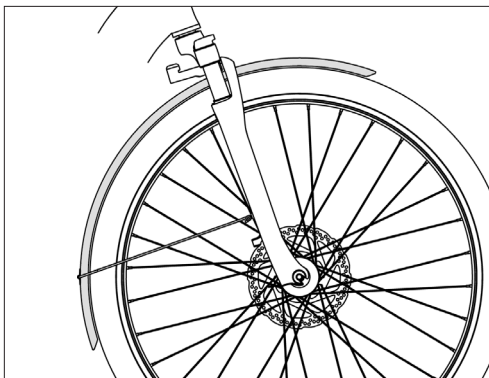

Fig. 20: Front fender in place
2. Move the fender into place, with one mounting arm on each side of the wheel (Fig. 20). The slotted hole on the top of the fender should slide over the mounting bolt on the fork arch.